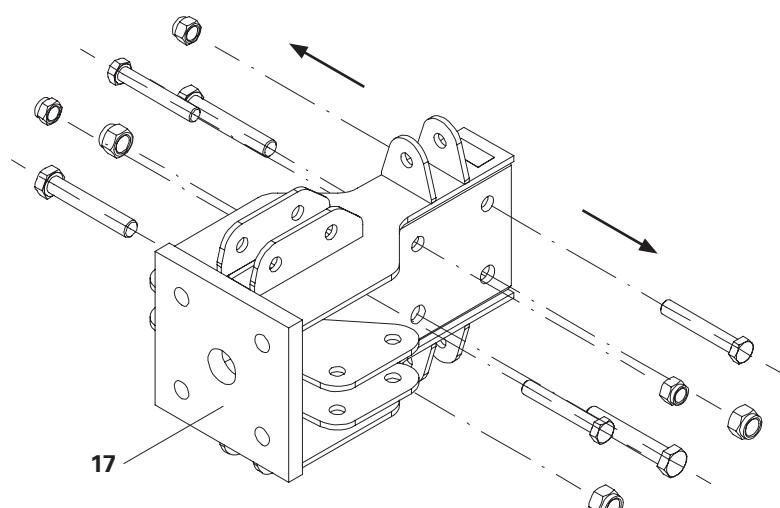

Fig. B2.02
1. Remove all 6 bolt connections from the prop base VST 48 (17).(Fig. B2.02)